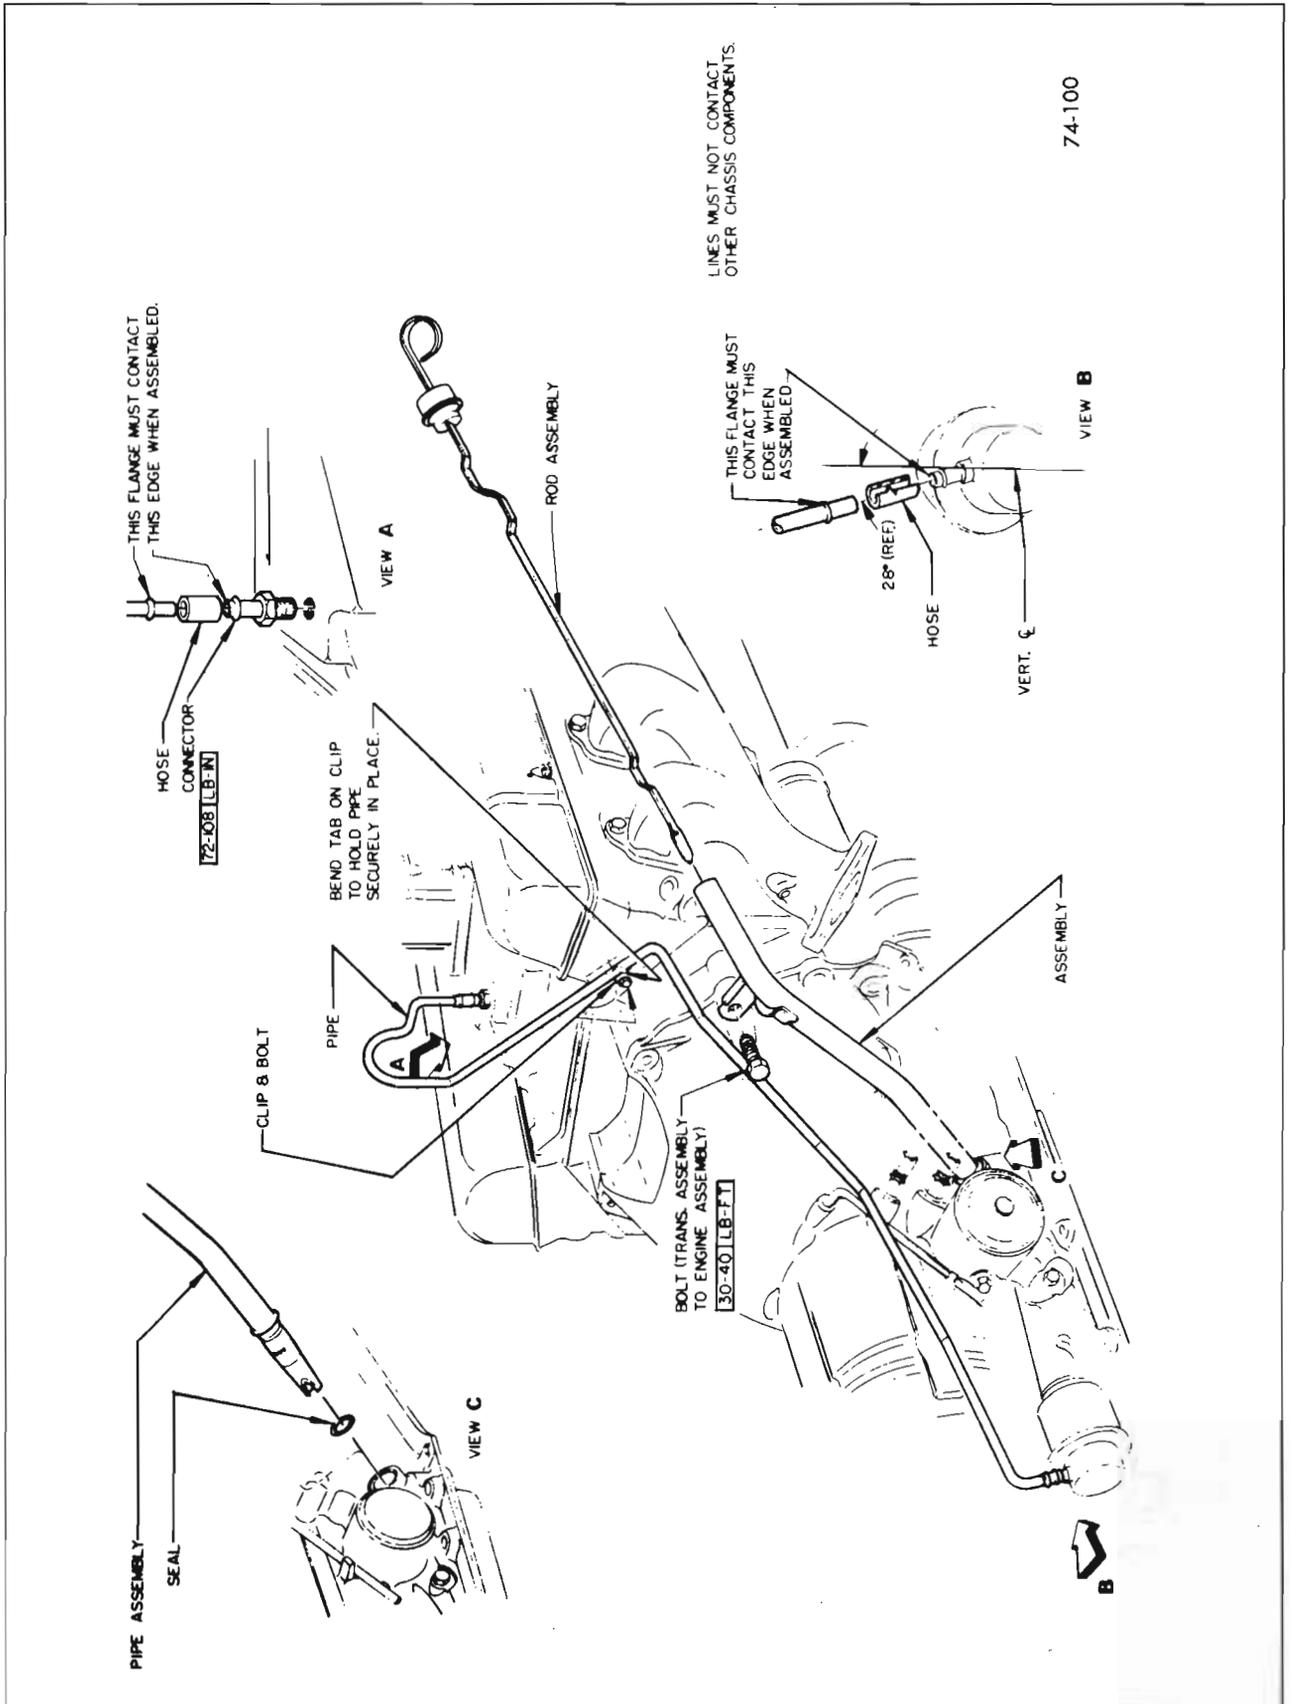

Figure 74-100—43-44000 Series
5. Remove vacuum line from vacuum modulator. See Figure 74-100 and 74-101.
11. Disconnect transmission filler pipe at engine. Remove filler pipe from transmission. See Figure 74-100 and 74-101.
12. Install vacuum line to vacuum modulator. See Figure 74-100 and 74-101.